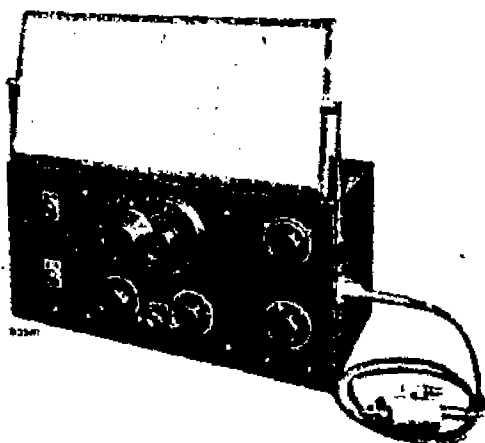

Fig. 1
1. Service oscillator GM2880F (zie fig. 1).